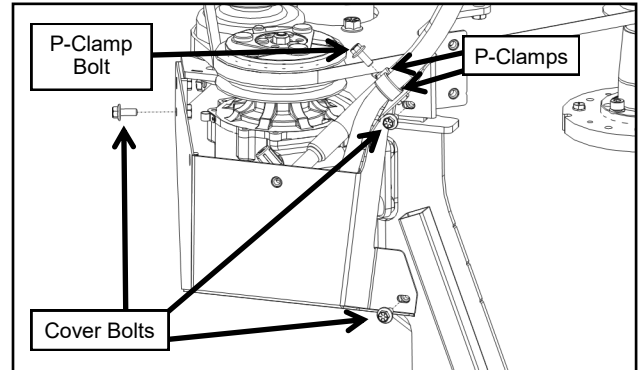

Fig. 2.29 (Compressor Debris Cover)
- 2.29** Install the compressor debris cover & 3/4" ID P-clamps as shown in Figure 2.29 using the supplied hardware listed below.